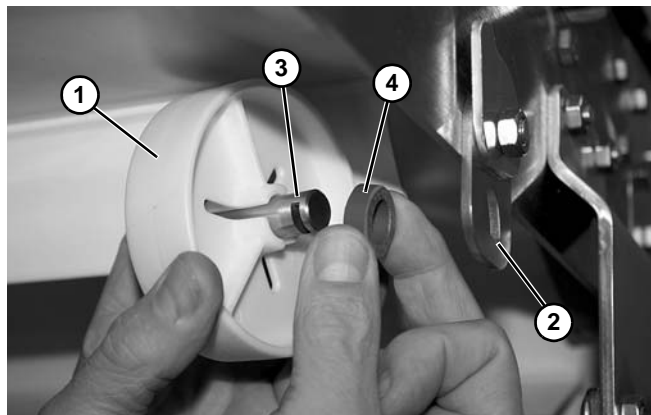

Figure 26
5. Install each puck (Figure 26, item 1) onto return bracket (Figure 26, item 2) with stub shaft (Figure 26, item 3) and spacer (Figure 26, item 4).